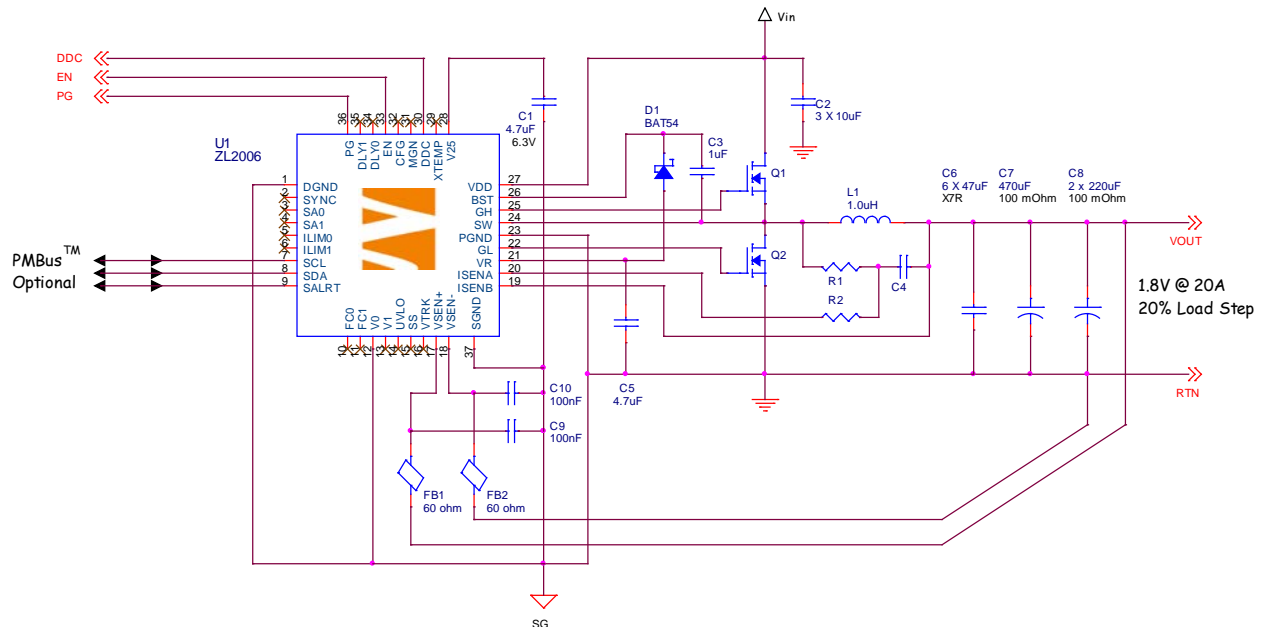

Figure 2. Typical Application Circuit
When the output voltage crosses one of the loading thresholds, the high side (control) MOSFET (QH in Figure 2) is immediately turned on (unless prohibited by the blanking timer or a current sampling interval, as discussed later), and the low side (synchronous) MOSFET (QL) is turned off. This immediate change to the state of a MOSFET is referred to as a “correction.” Since a loading threshold corresponds to an on-time correction to the high side MOSFET, the loading